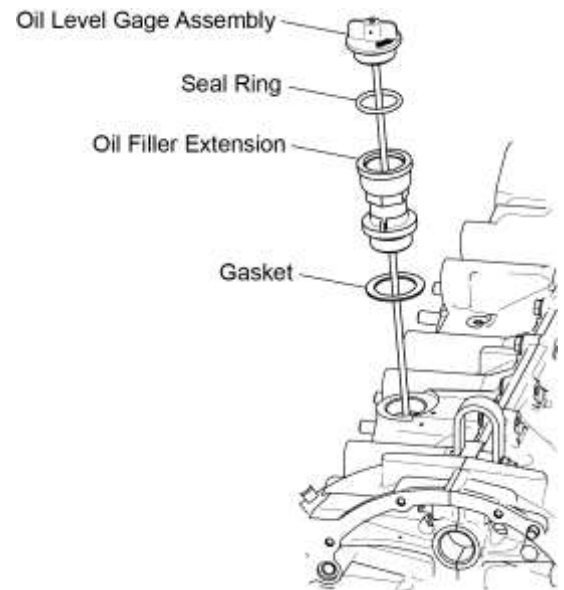

Figure 1
- (1) Pull out the oil level gage assembly (dipstick) from the oil filler extension (Figure 1).
- (2) Wipe all oil from the dipstick end with a clean, lint-free cloth. Do not let any lint or dirt remain on the dipstick or get in the oil filler extension.
- (3) Insert the dipstick fully back into the oil filler extension, threaded all the way down to the oil sump and then remove the dipstick.
- (4) Look at the oil level indication on the dipstick end.
- (5) If the oil level is not sufficient, add the correct oil through the oil filler extension. Refer to the section "Add Oil to the Engine" in this chapter.
- (1) Pull out the oil level gage assembly (dipstick) (Figure 1) from the oil level gage tube.
- (2) Add either new clean ashless dispersant oil or specified oil of the correct viscosity for the ambient temperature (identified in Appendix A in the *TEO-540-A1A Engine Installation and Operation Manual*) to the oil sump through the oil level gage tube.
- (3) Measure the oil level per the “Oil Level Check” procedure in this chapter. Add more oil if necessary until the oil level in the engine is sufficient.
- (4) In the engine logbook, record the amount of oil added to calculate oil consumption.
- (5) Install the oil level gage assembly (dipstick) into the oil filler extension.